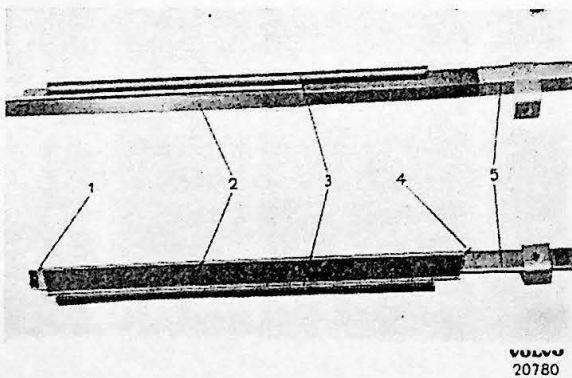

Fig. 24.
Before installing the window make sure that the weatherstrips are in good condition. Worn or damaged weatherstrips should be replaced. The weatherstrip on the ventilator in the forward front run channel is taken out by removing the two nails (1 and 4, Fig. 24) by pulling the retainer (2) from the channel (5). The new weatherstrip (3) is fitted so that it lies on the front run channel after which the retainer is slid on and the nails driven home.